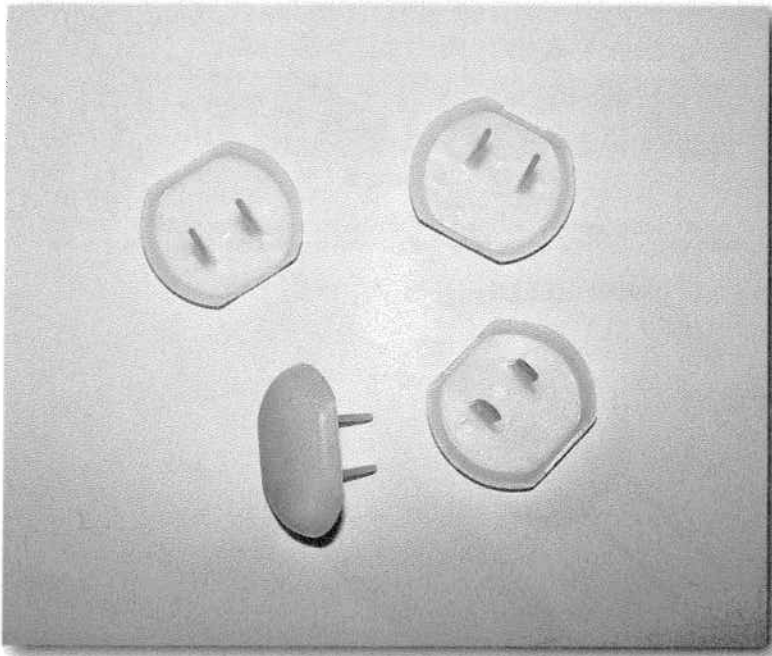

FIGURE 22-6: Outlet plugs for the household power extension cable.
- Outlet plugs for unused power sockets, as shown in Figure 22-6 (\$1 for a small box of them)